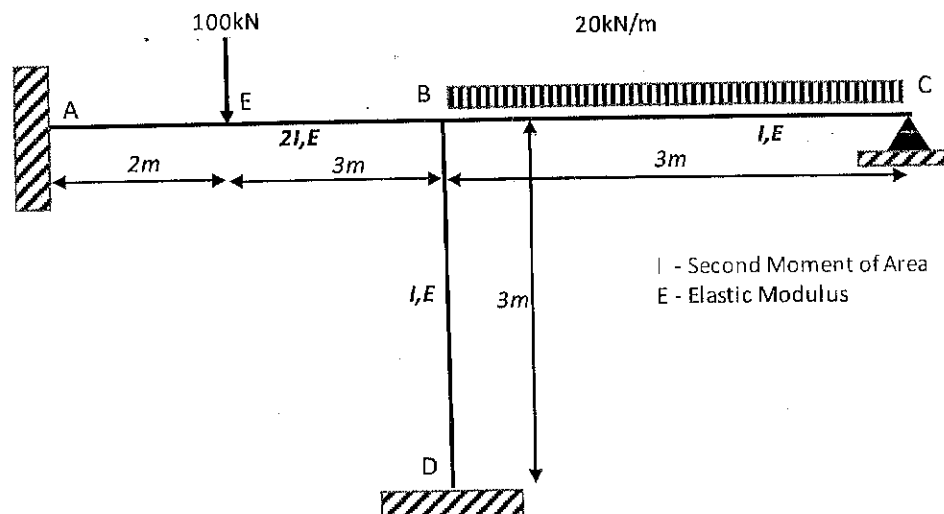

Figure 3
- (b) A portal frame structure is loaded as shown in Figure 3. Analyse the structure using **Moment Distribution Method** and draw the bending moment diagram. Second moments of area of members are shown close to respective members in Figure. (14 Marks).